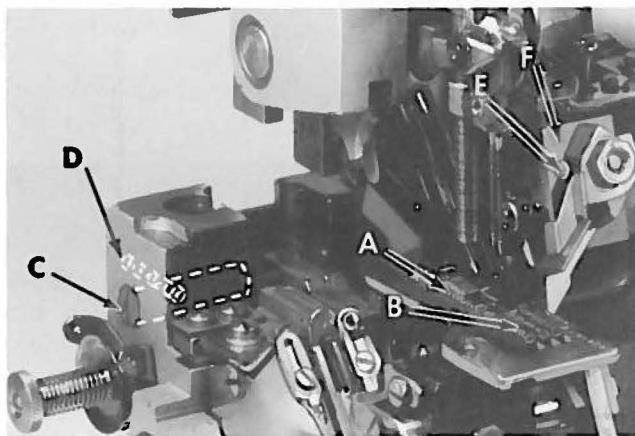

Fig. 15
Assemble main and differential feed dogs (A, B, Fig. 15).
After upper knife has been set for proper width of trim, screw (E, Fig. 15) should be tightened to lock upper knife holding block (F) in place. This will simplify resetting when upper knife is replaced.